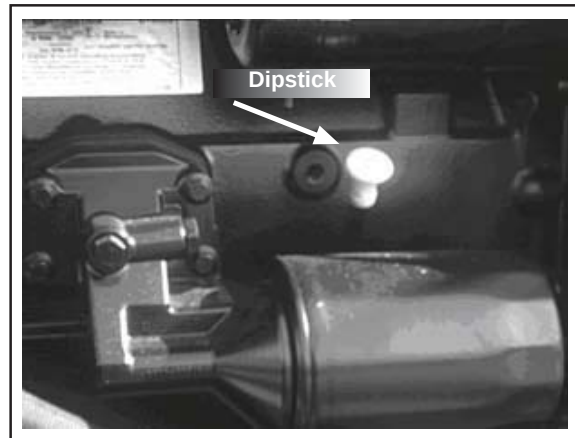

Fig. 85
Check the engine oil level - flexible maintenance. Check the oil level before starting work each day. If the engine has been running, stop the engine and allow the oil to drain back into the sump. Check the oil level with the dipstick (Fig. 85).
Change the engine oil filter at first 50 hours, then 250 hours thereafter. The picture of the filter element (Fig. 85) shows a typical installation with a horizontal filter. On some tractors the filter is vertical. The change procedure is identical.
2. Remove the filter canister (Fig. 85) with a strap wrench or similar tool. Ensure that the threaded adaptor is secure in the filter head. Then discard the canister.